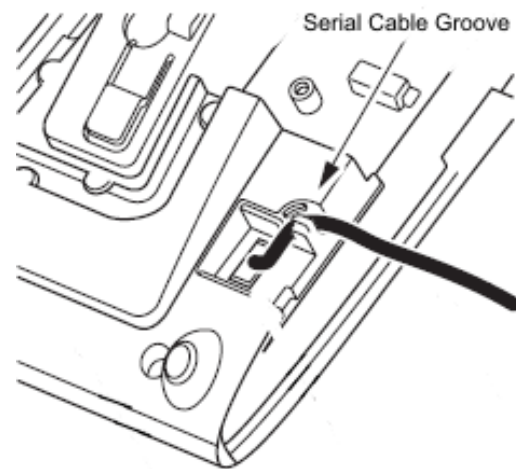

Figure 5-104 Press Serial Cable into Groove
- Using the guides, slide the DCL-60-1 onto the installed bracket (refer to Figure 5-104 Press Serial Cable into Groove).